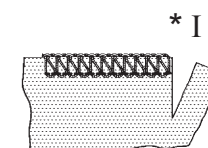

Fig. 2
NOTE: When overlocking and trimming at the same time, cut the fabric along the new stitching line for about 3 cm, before turning the fabric. Fig. 2.
2. Insert the cord through either the front or rear hole (according to the operation, see diagrams Figures 2 and 3), in the presser foot and pass it under and to the rear of the foot.
FOR JOINING SHOULDERS OR SLEEVES, pass the cord through the front hole, ensuring that it is fixed between the left and right needle threads as it is guided through the front hole. (Fig. 2).